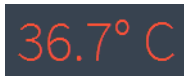

Figure 38 Temperature out-of-range widget status
- Set the tolerance range for temperature fluctuation. If the temperature is above or below the acceptable tolerance range from the temperature set point, the Temperature Widget will change color (see Figure 38), and the Status Indicator light (top of the XFe Analyzer) will change from blue to amber. For networked XFe Controllers, Wave Controller software will automatically send an email notification to specified recipients.